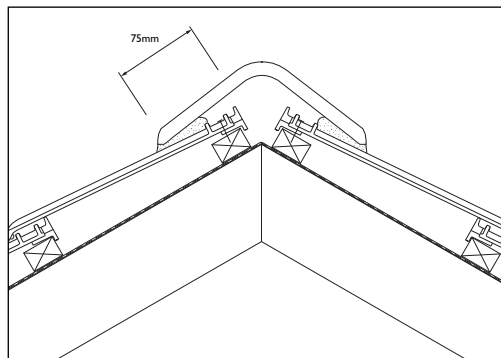

Fig 79 - Modern ridge bedded onto Melbourn slates
- 1 Edge-bed ridge tiles onto the top course slates with solid bedding at butt joints (Figs 79 and 80).